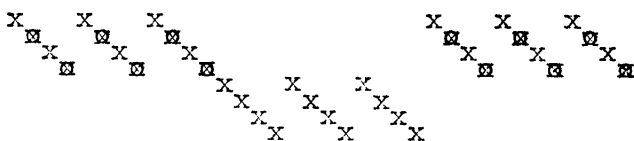

Fig.5
4) The same can be done in warp (fig.5).